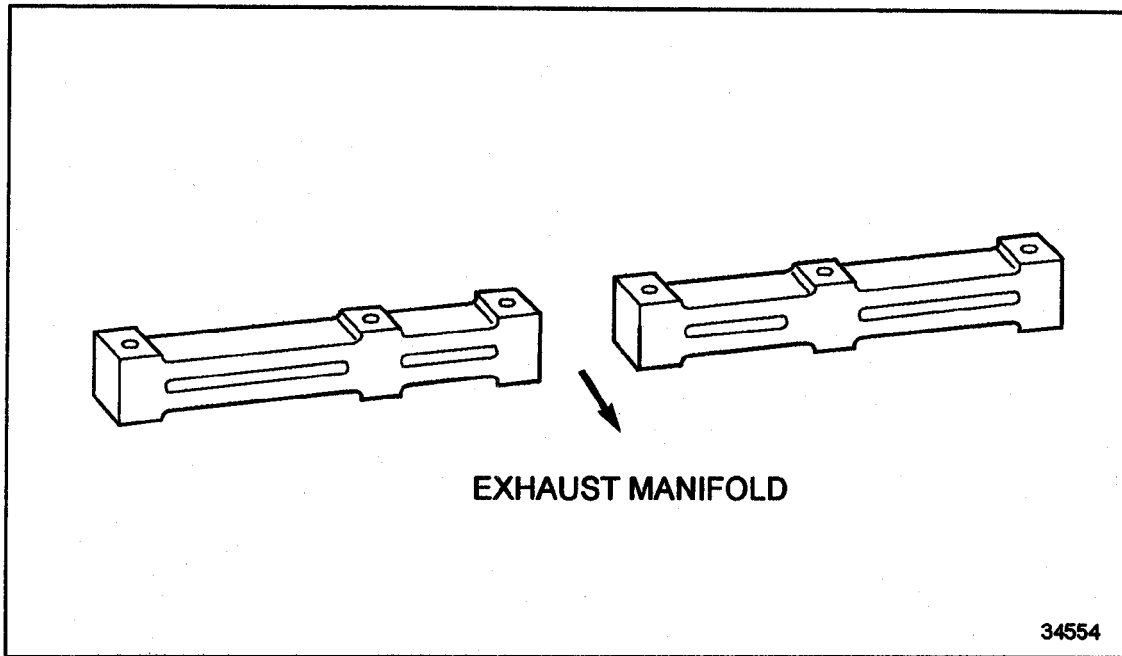
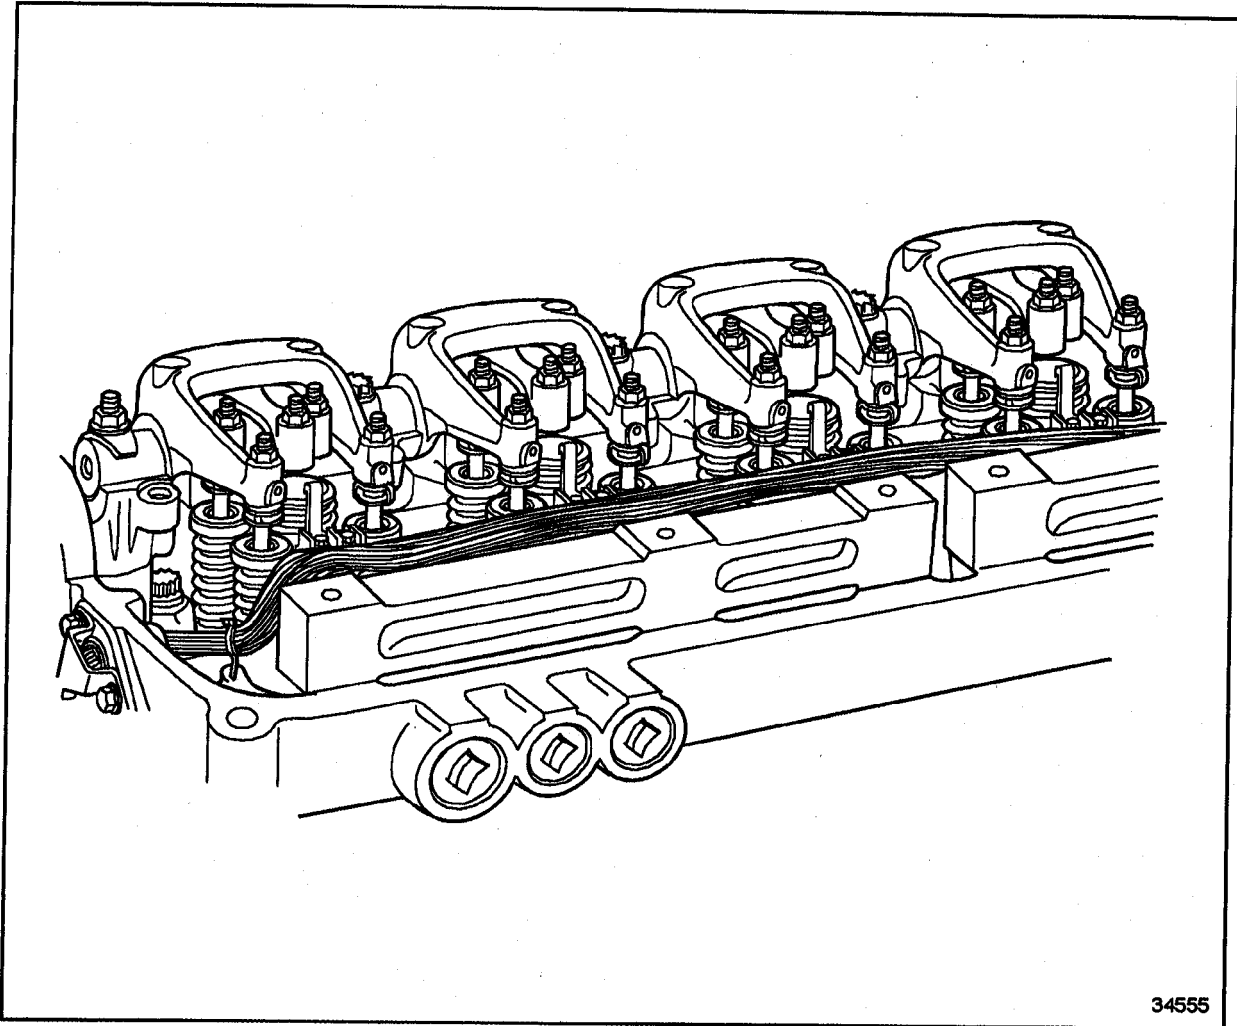

Figure 1-447 **Spacer Bars with "Out" Marks Adjoined**
Figure 1-448 **Location of Spacer Bars**
4. Place the spacer bar on the exhaust manifold side of the cylinder head with the "OUT" markings adjoining each other and facing the exhaust manifold. See Figure 1-447, and see Figure 1-448.